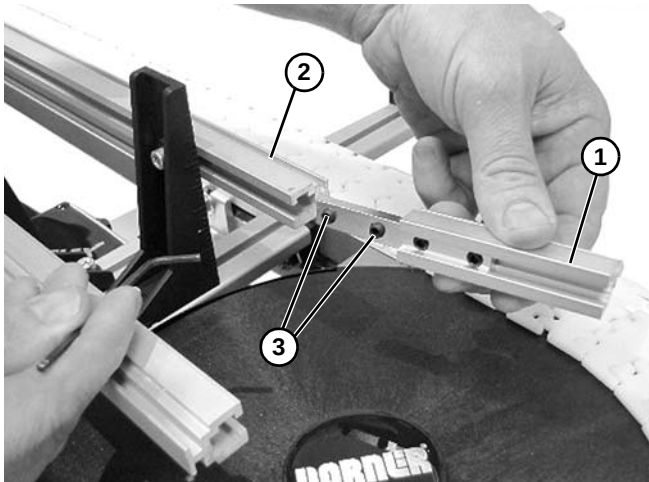

Figure 45
6. For curves, install inside of curve guide rail (**Figure 45, item 1**) to straight guide rails (**Figure 45, item 2**). Tighten set screws (**Figure 45, item 3**).